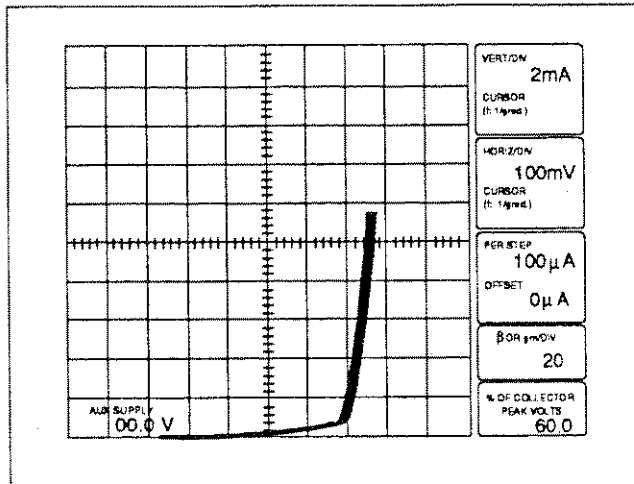

Figure 3-15. Stored envelope display.
4. Turn the VARIABLE COLLECTOR SUPPLY clockwise. Note the envelope display of the collector current vs base-emitter voltage for a value of base current. The display shows a horizontal min/max envelope of the storage display (see Figure 3-15). If you set the ACQ MODE to VERT ENV, a vertical envelope is displayed on the CRT.